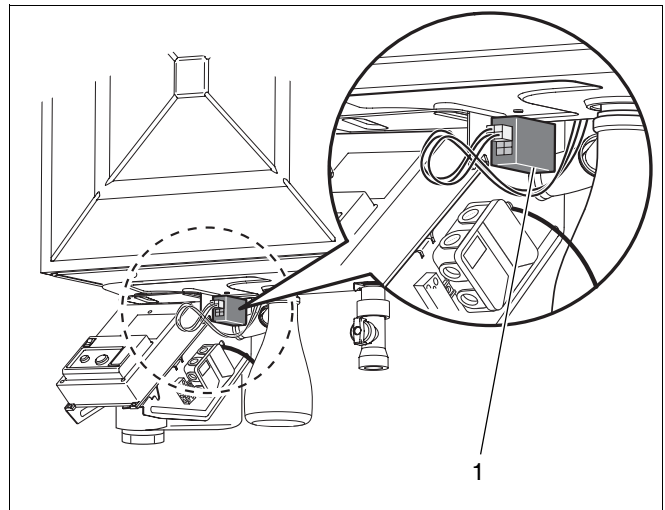

Fig. 68 KIM connections
- Check if 4 pin connector (fig. 68, item 1) is fitted and secure.